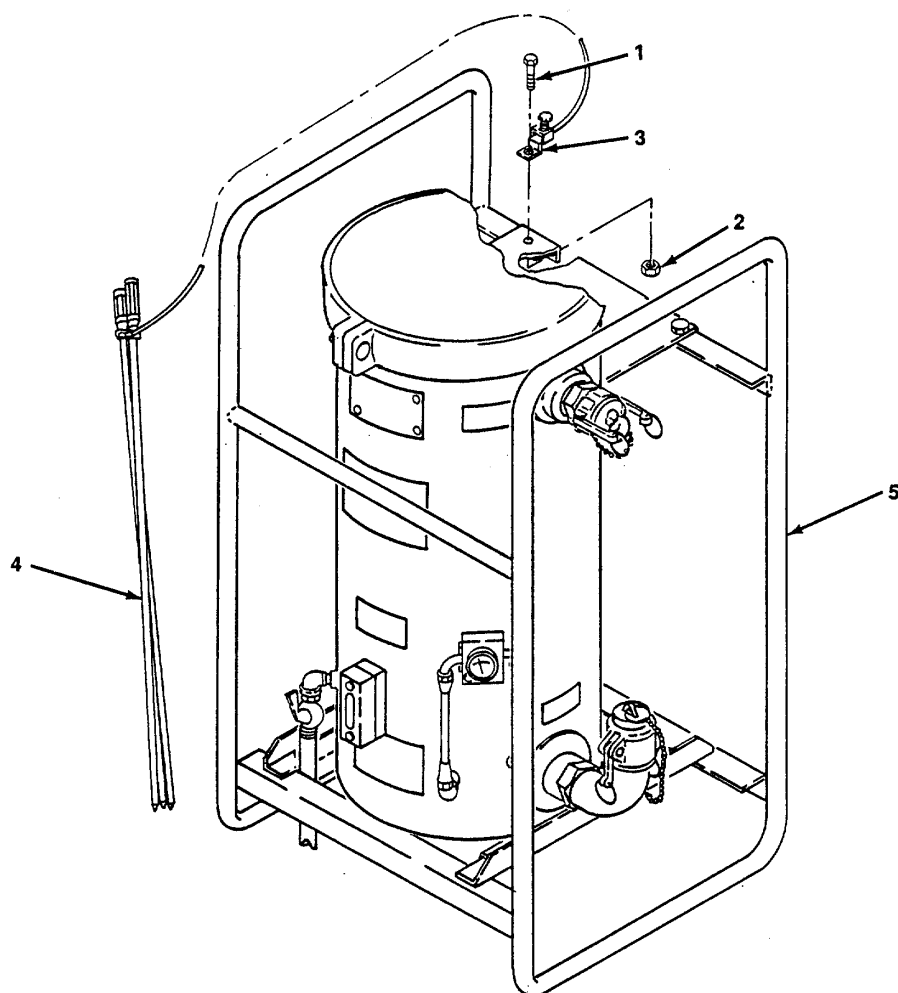

Figure 4-18. Grounding Rod Assembly, Replace.
*b. Replace.* (figure 4-18)
- (1) Remove screw (1) and locknut (2) securing clamp (3) and remove.
- (2) Remove grounding rods (4) from frame (5).
- (3) Position grounding rods (4) on frame (5).
- (4) Install clamp (3) and secure with screw (1) and nut (2).